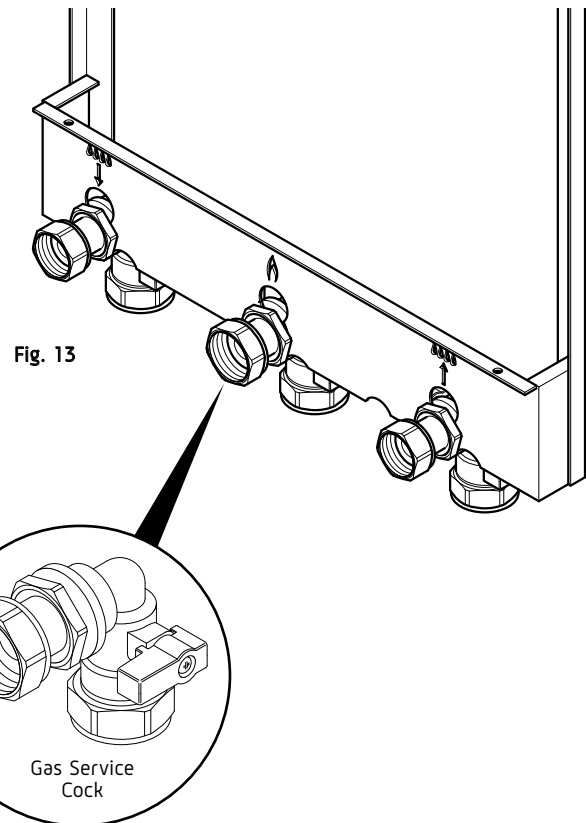

Fig. 13
2. The connection to the appliance is a 22mm copper tail located at the rear of the gas service cock (Fig. 13).